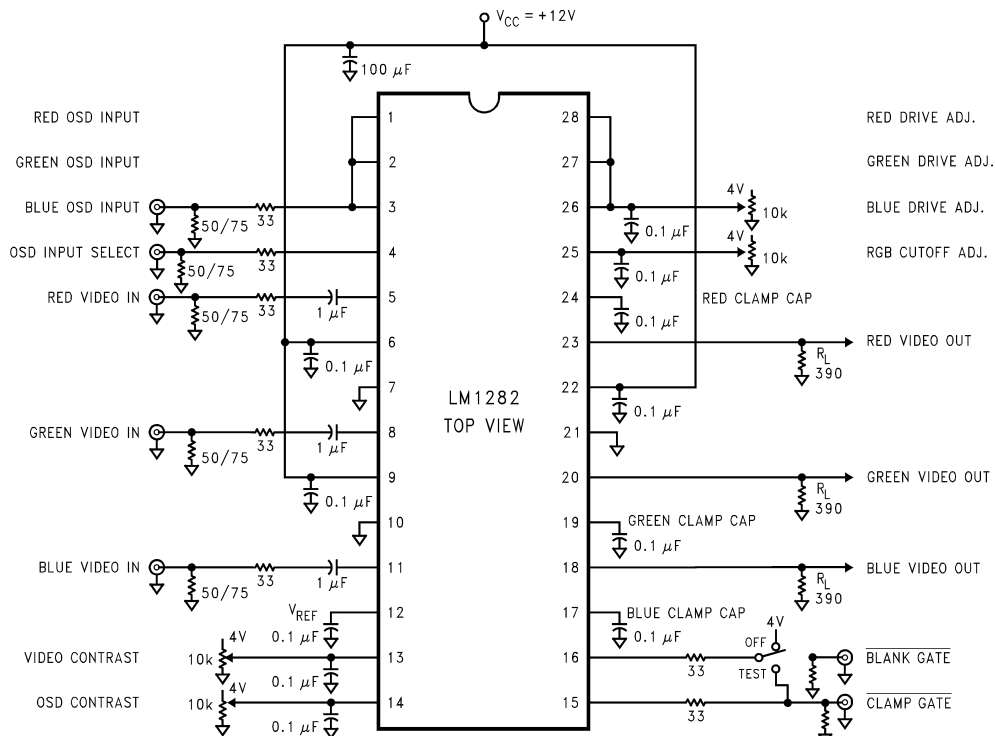

FIGURE 5. LM1282 OSD Video Preamp DC Test Circuit
**Note 7:** The supply current specified is the quiescent current for  $V_{CC1}$  and  $V_{CC2}$  with  $R_L = \infty$ , see Figure 5's test circuit. The supply current for  $V_{CC2}$  (pin 22) also depends on the output load. With video output at 1V DC, the additional current through  $V_{CC2}$  is 8 mA for Figure 5's test circuit.